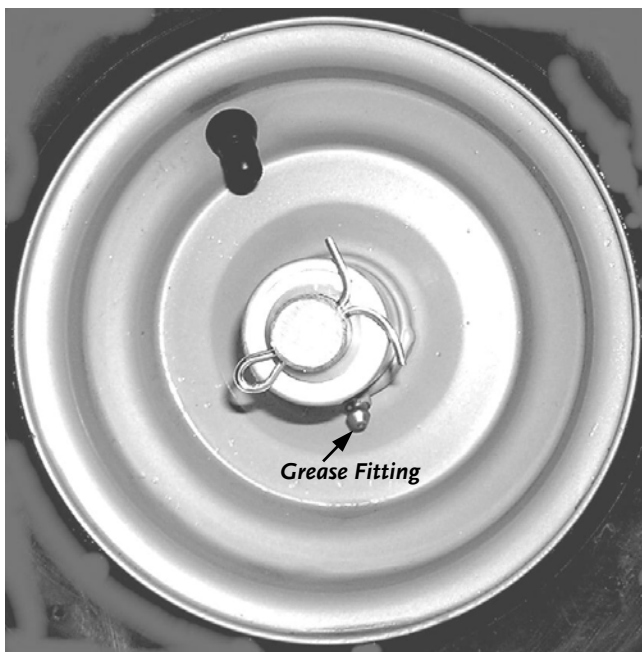

Figure 39a
1. Lubricate each Wheel (**Figure 39a**) with Multipurpose Automotive Grease using a grease gun on the fitting.